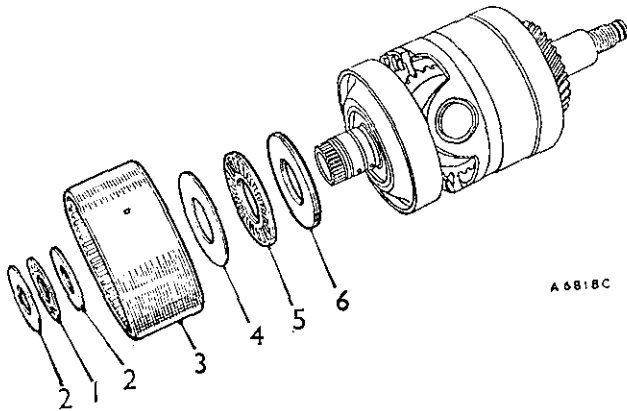

Fig. Fa.48
- (31) Refit the top and reverse clutch with its selective steel washer and Torrington needle thrust bearing onto the reverse output shaft (see Fig. Fa.48).